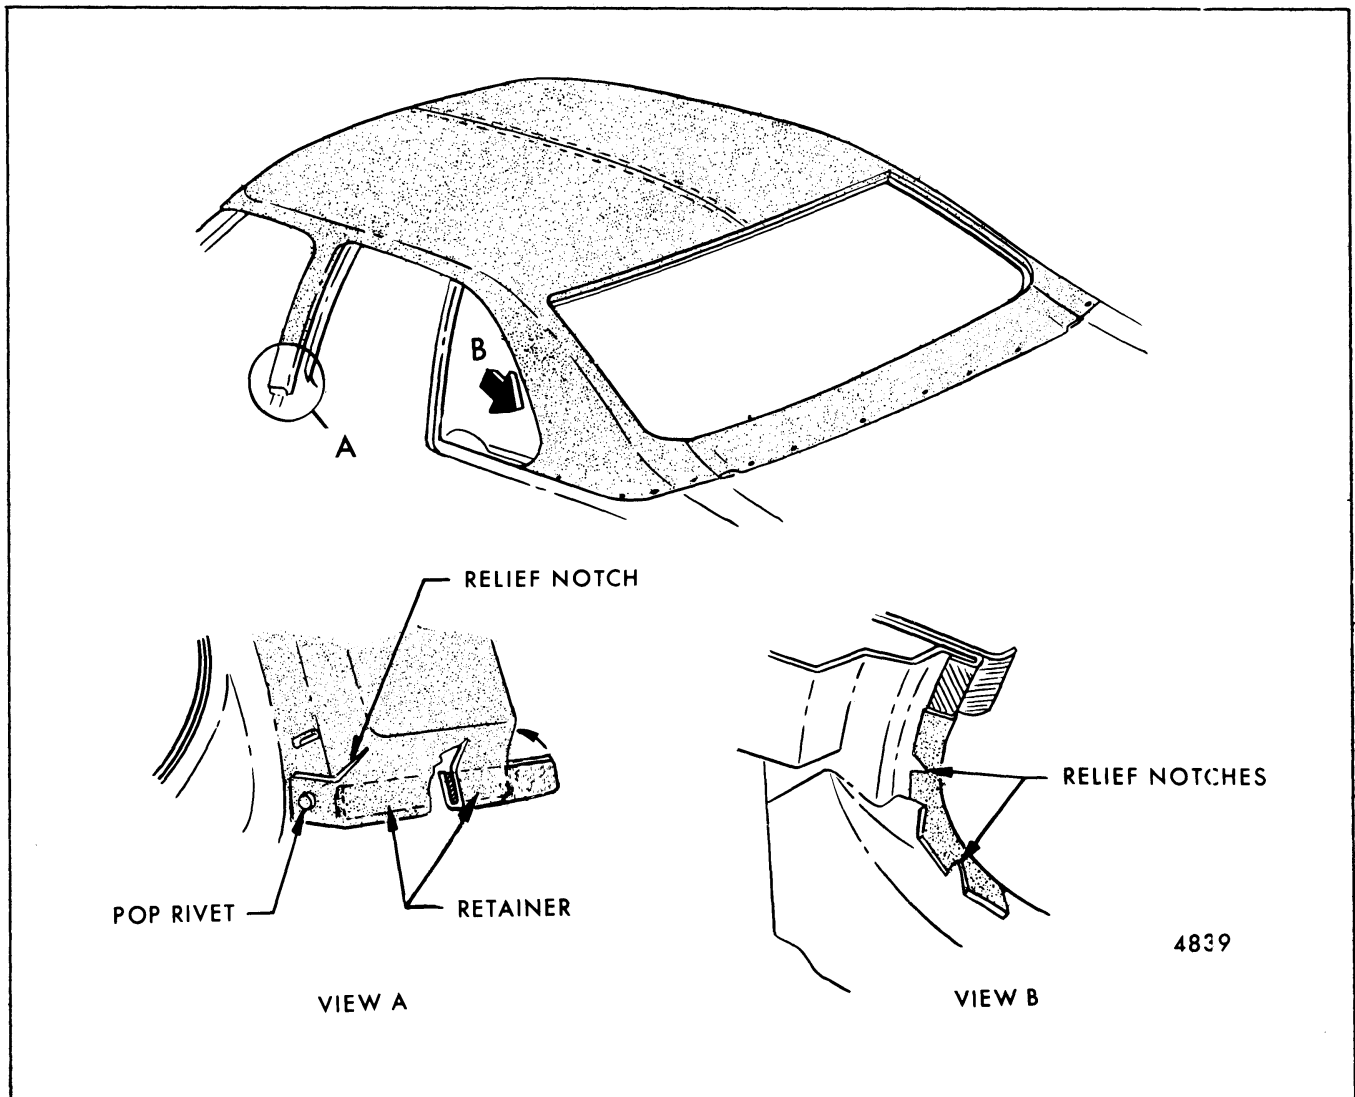

Fig. 8-16-Fabric Roof Cover Installation at Center Pillar and Quarter Window - "A-29" Styles
4. On "A-29" styles drill out four pop rivets and remove retainers (Fig. 8-16).